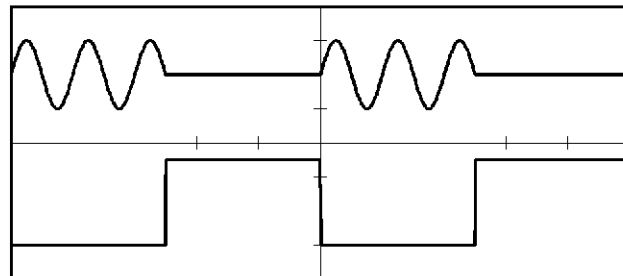

Figure 8-19 Waveform for Gated (level), Negative
50. Ensure that a sine wave signal is output only when the trigger signal is low by using the oscilloscope as shown in Figure 8-19.